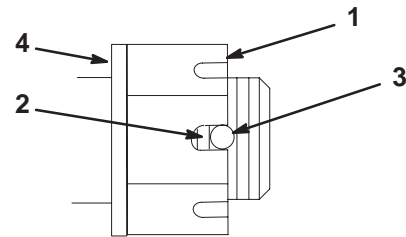

Figure 59
3. Torque the slotted nut to 125 ft.-lb. (170 N·m) (Fig. 59).
4. Check the distance from the bottom of the slot in the nut to the inside edge of the hole. Two threads or less should be showing (Fig. 59).
5. If more than two threads are showing, remove the nut and install the washer between the hub and nut (Fig. 59).
6. Torque the slotted nut to 125 ft.-lb. (170 N·m) (Fig. 59).
7. Tighten the nut until the next set of slots line up with the hole in the shaft (Fig. 59).